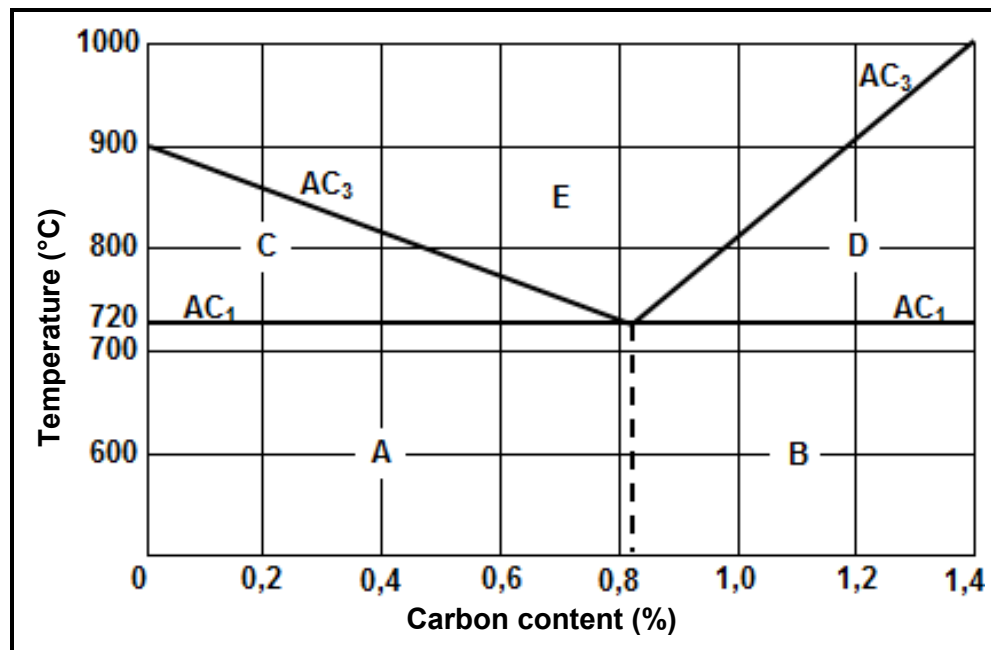

FIGURE 4.2
4.2 FIGURE 4.2 below is a diagram that shows the heating process of carbon steel. Answer the questions that follow.
4.2.1 Identify the diagram shown in FIGURE 4.2. (2)